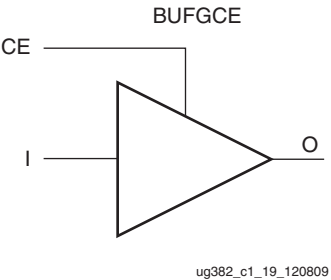

Figure 1-26: BUFGCE Primitive
The BUFGCE primitive creates an enabled clock buffer using the BUFGMUX select mechanism (see Figure 1-26). BUFGCE is a global clock buffer with a single gated input. Its O output is 0 when clock enable (CE) is Low (inactive). When clock enable (CE) is High, the I input is transferred to the O output. The BUFGCE truth table is shown in Table 1-15.